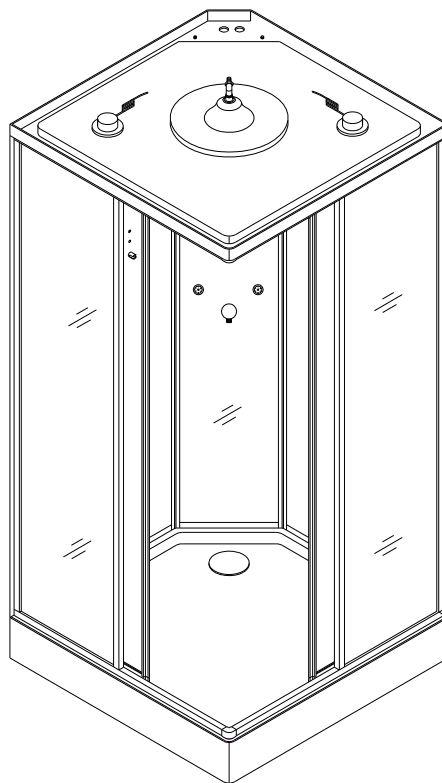

Fig 11
12. Apply the silicon sealant on the top aluminum profiles of the control panel (1), left and right stationary panels (2,3) and stationary glass (6). Put the **Roof (4)** on the top of the shower enclosure assembly. Secure the roof and the right and left stationary glass with **Round head screws ST4.2x25 (12)**. See Fig 10 and Fig 11 for details.